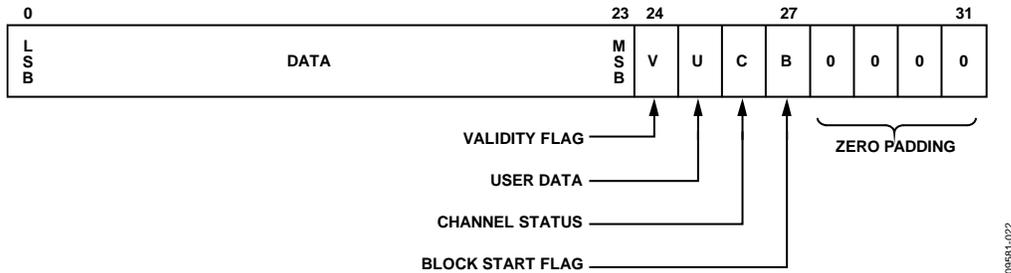
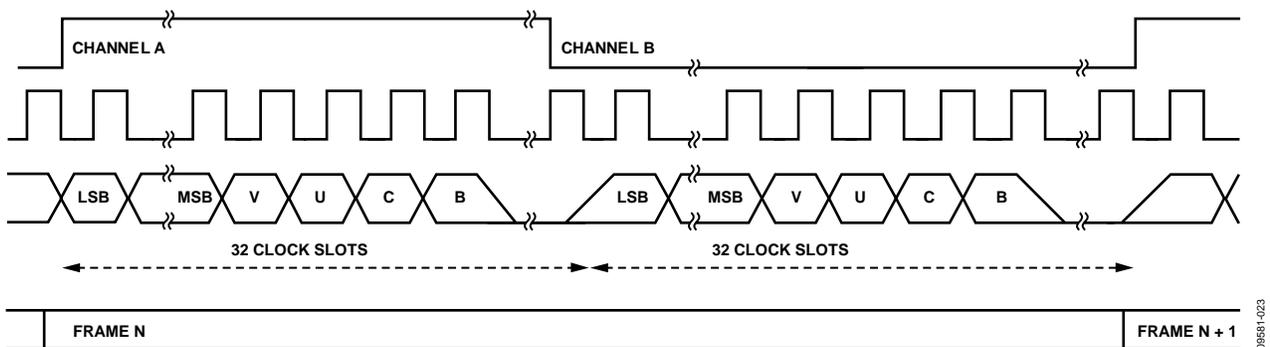

Figure 24. AES3 Subframe Timing Diagram
Figure 25. AES3 Stream Timing Diagram
- An AES3 stream if the I2SOUTMODE[1:0] control is set to 0x3 (refer to Figure 24 and Figure 25). Note that AES3 is also referred to as raw SPDIF. Each AES3 stream may encapsulate stereo L-PCM audio data or multichannel non L-PCM audio data (for example, 5.1 Dolby Digital).
- An AES3 stream on each HBR interface output pin (refer to Figure 24 and Figure 25). The following configuration is required to output AES3 streams: